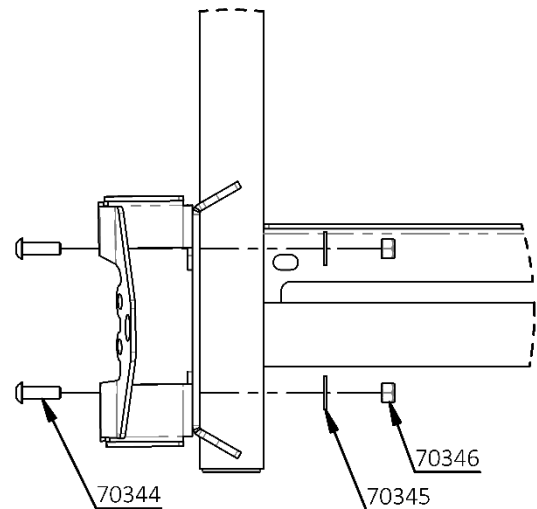

Figure 9: Lower Hinge Mounting Hardware
16. Loosely bolt the base unit to the lower hinge bracket using two 5/16"-18 X 1" button head bolts (70344), two 5/16" washers (70345) and two 5/16" nylock nuts (70346) as seen in Figure 9.